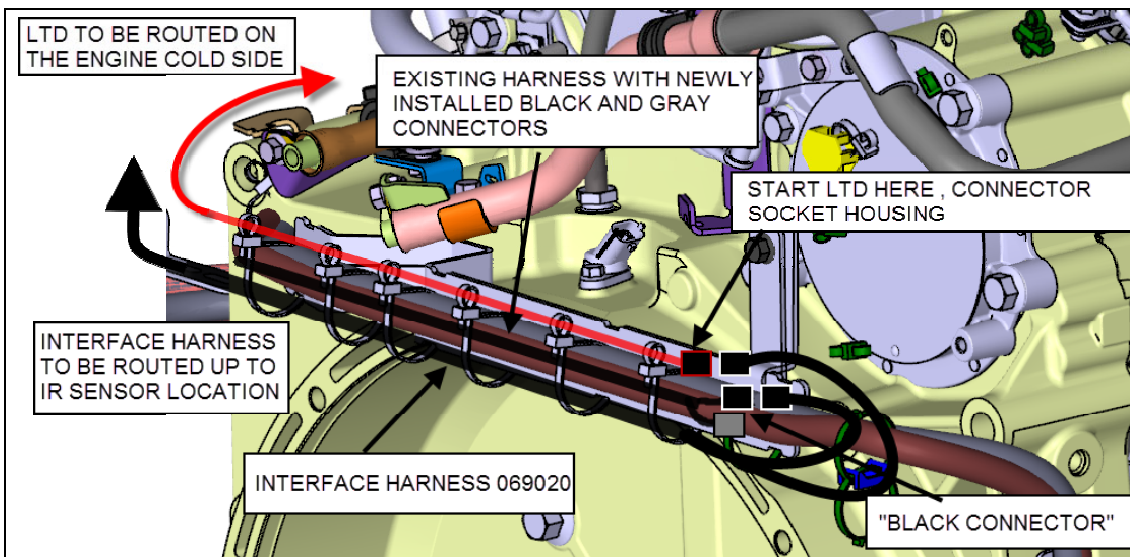
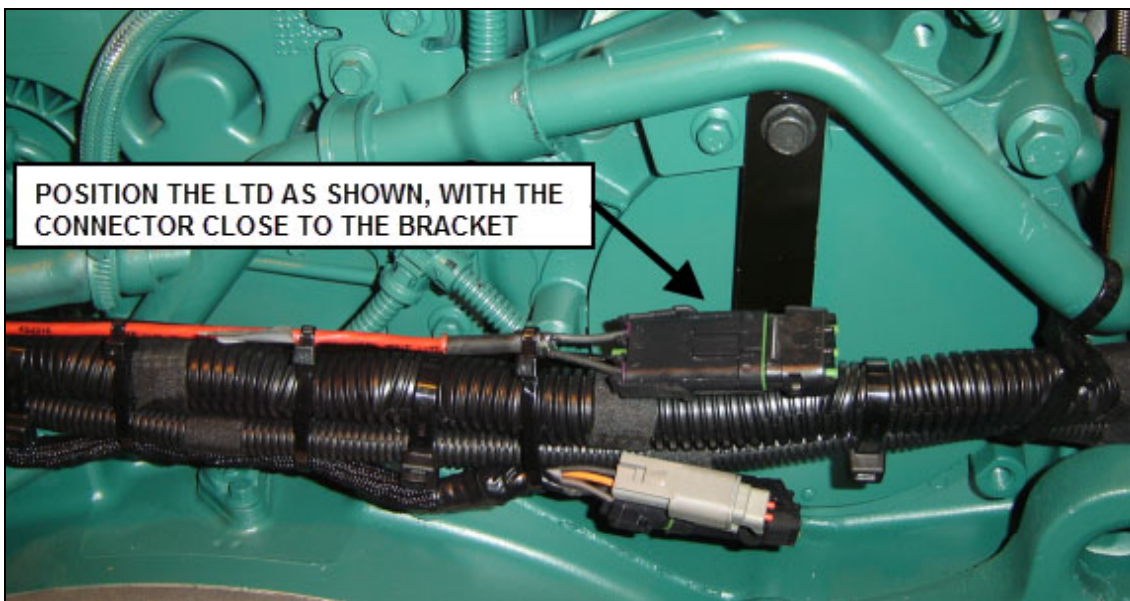

Figure 26
Figure 27
- 1) Secure LTD to existing nearby harnesses (see Figure 26 for proper installation) using 6 double loop head nylon cable ties 507664. Use the second loop to attach the LTD (Figure 26 and Figure 27). Tighten the loop fixing the LTD by hand only. Follow the general recommendations.